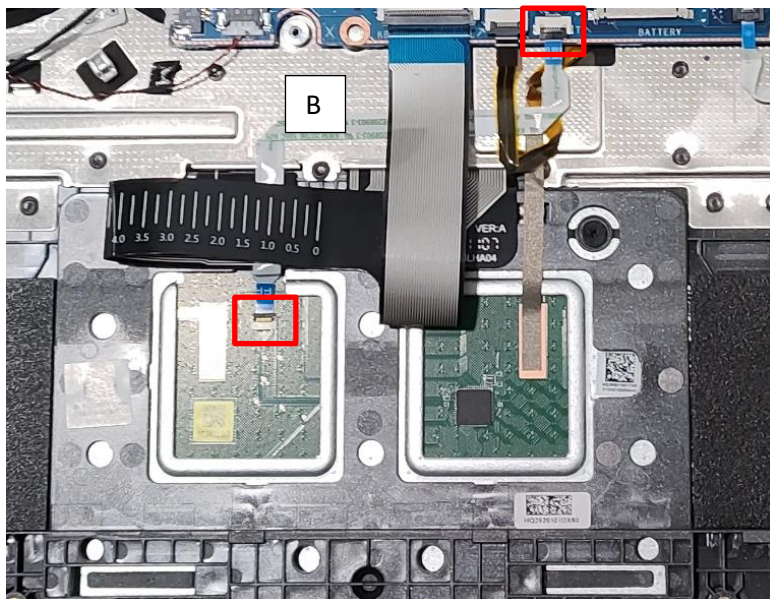

Figure 3-11. Touchpad Module Removal
2. Disconnect the touchpad FFC (B) from the touchpad module and mainboard connectors. Then carefully detach the FFC from its underneath adhesive to remove it from the top assembly (Figure 3-11).